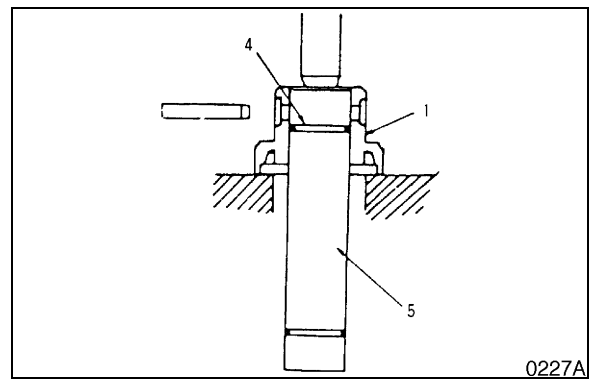

Figure 23
5. Use a press to separate the axle (5, Figure 23), O-ring (4) and bearing (1).